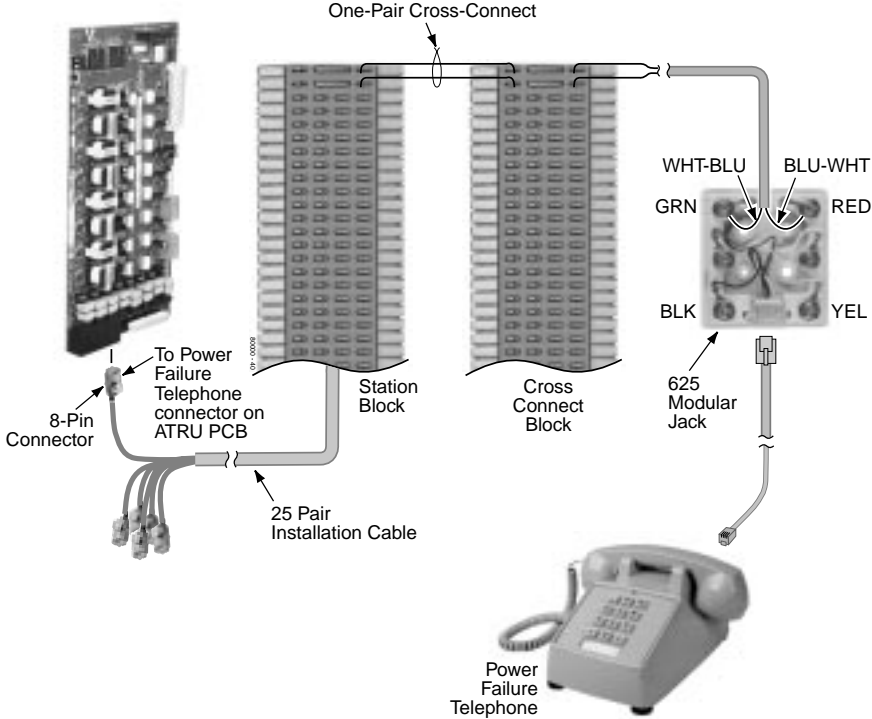

Figure 4-5 CONNECTING A POWER FAILURE TELEPHONE
Power Failure Cut-Through (Figure 4-5)
1. Connect a Power Failure Telephone per Figure 4-5.
You should hear dial tone on the trunk you connected in Figure 4-5.